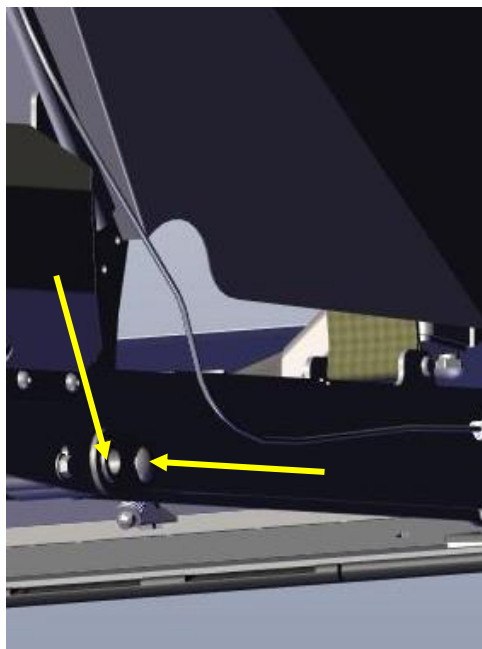

Figure 9
12. Remove the bolt holding the pin at the rear of the paddle, and remove the bolt and then slide out the pin. Figure 9